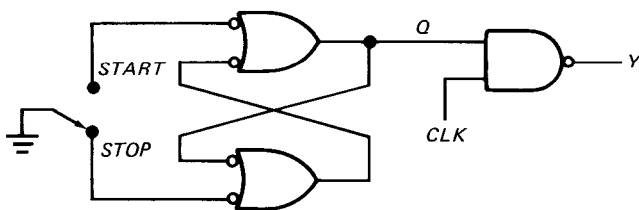

Fig. 7-21
- 7-7. Figure 7-21 shows a NAND latch used as a switch debouncer. With the switch in the STOP position, what do *Q* and *Y* equal? If the switch is thrown to the START position, what do *Q* and *Y* equal?